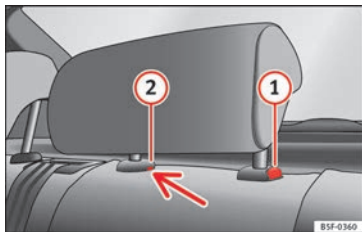

Fig. 146 Rear centre head restraint: release point.
- To set the head restraint lower down, press the  » **Fig. 146** button and move it downwards.
- Press button  » **Fig. 146**, while simultaneously pressing on the security hole  » **Fig. 146** with a flat screwdriver a maximum of 5 mm wide, and remove the head restraint.